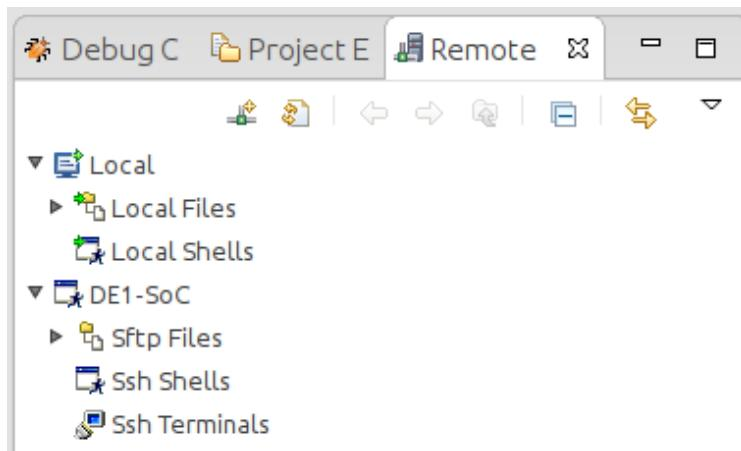

Figure 13-13. New SSH Connection In "Remote Systems" View
75. You should be able to see the remote system in ARM DS-5’s “Remote Systems” view, as shown in Figure 13-13.